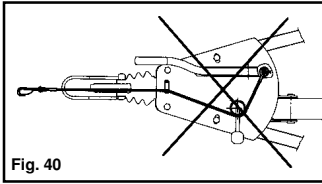

Fig. 40
- 2) The breakaway cable MUST NOT be wrapped around the jockey wheel, as this disables the emergency brake (Fig. 40).